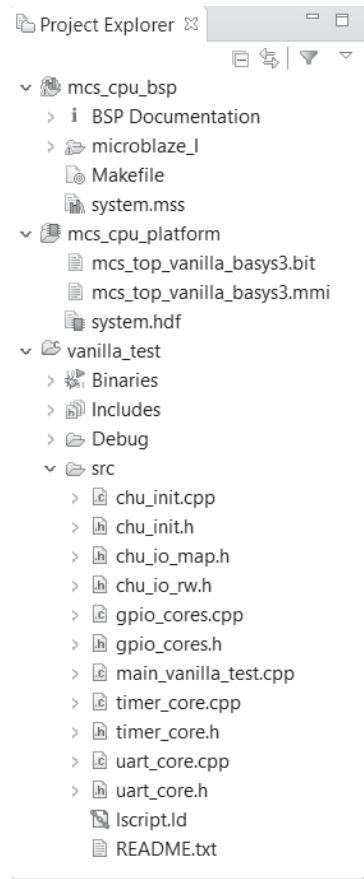

Figure A.17 Project Explorer subwindow.
6. Import the main program file and driver files discussed in Chapter 9. An easy way to do this is to open Windows File Explorer and drag these files into the `src` folder. The Project Explorer subwindow of the completed project is shown in Figure A.17.